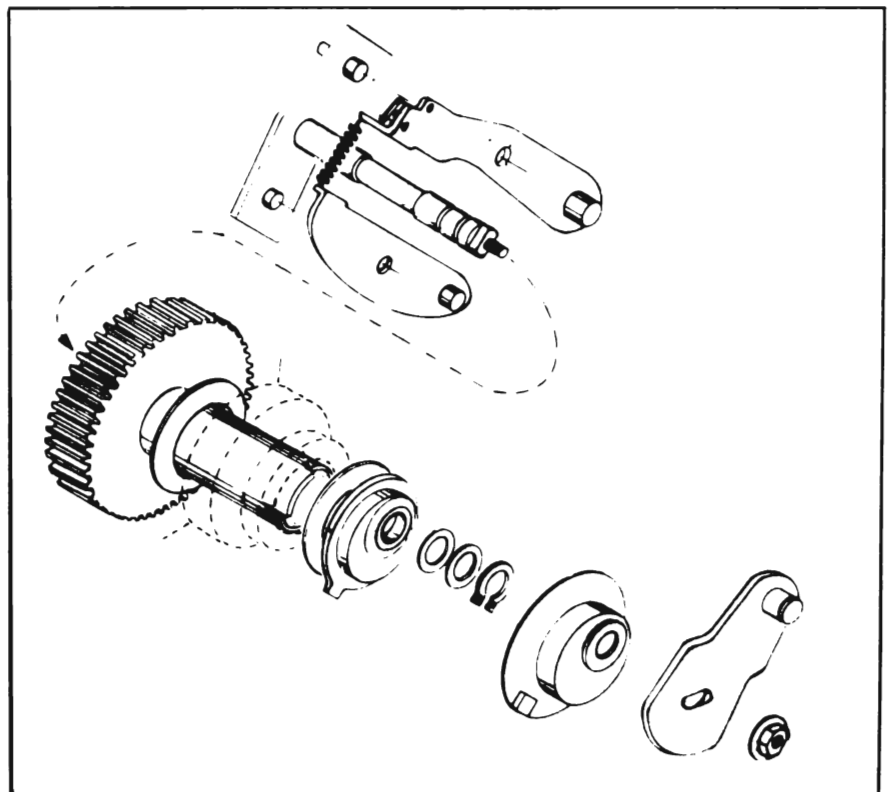

Figure 10-126—Drive Gear Mechanism
1. Remove the crank arm retaining nut. See Figure 10-126.
1. Gear assembly end-play is controlled by end-play washers located between the seal cap and shield. See Figure 10-126. End-play should be .006.